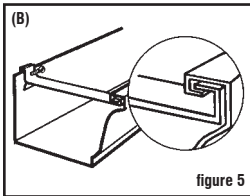

figure 5
(B) Hidden Hanger (J or K) installation: Space hangers 18" apart and at every joint, for maximum holding strength. Before nailing each hanger in place, hook it under the front lip of the gutter (figure 5). Use screws or twist-type nails to fasten back of hanger to fascia at rafter points.